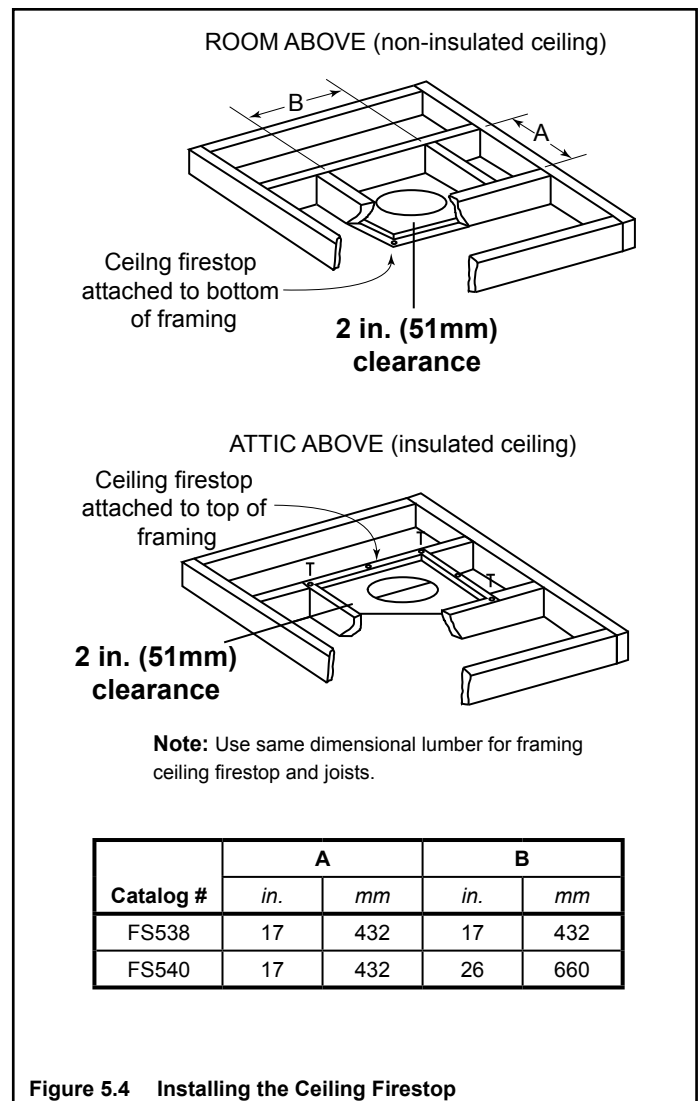

Figure 5.4 Installing the Ceiling Firestop
- Mark and cut an opening in ceiling as shown in Figure 5.4.
- Refer to Figures 5.4, 5.6.